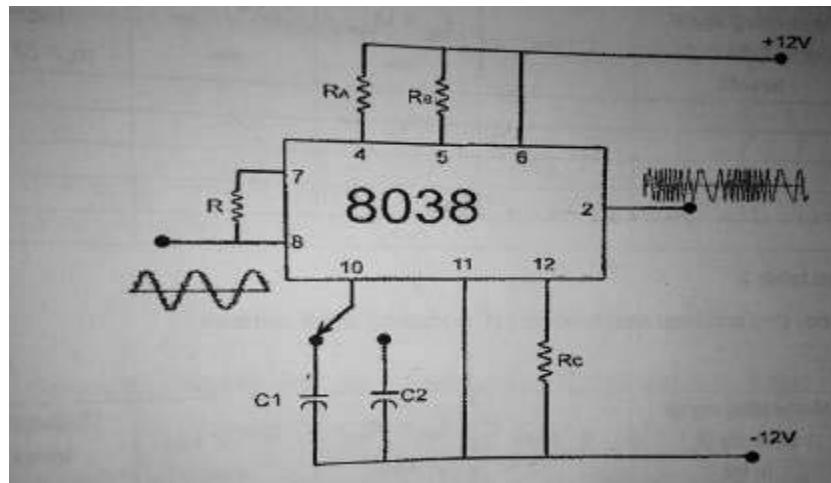
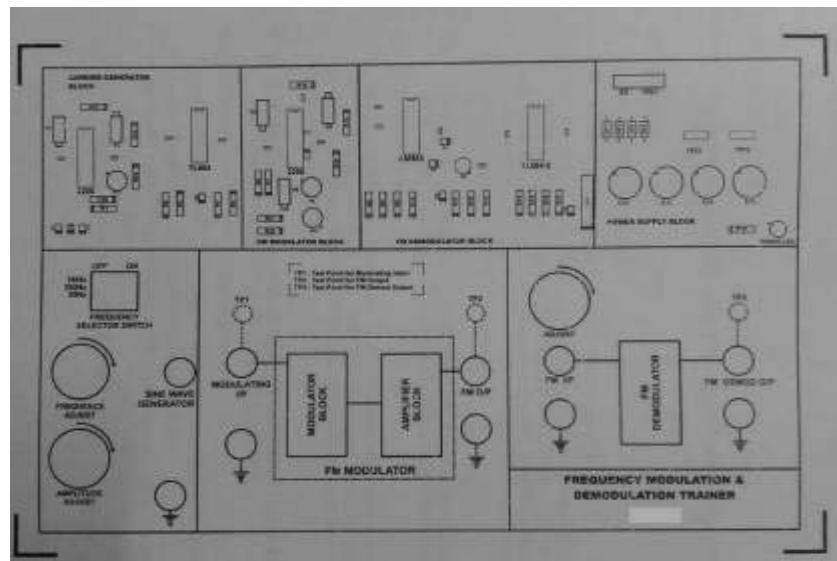
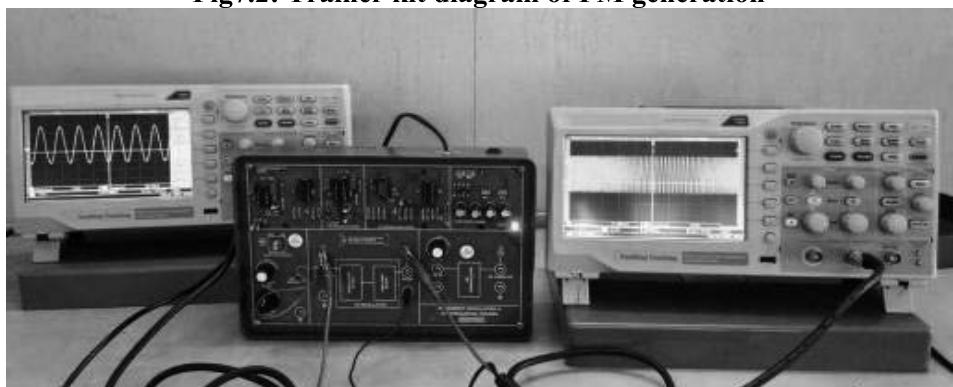
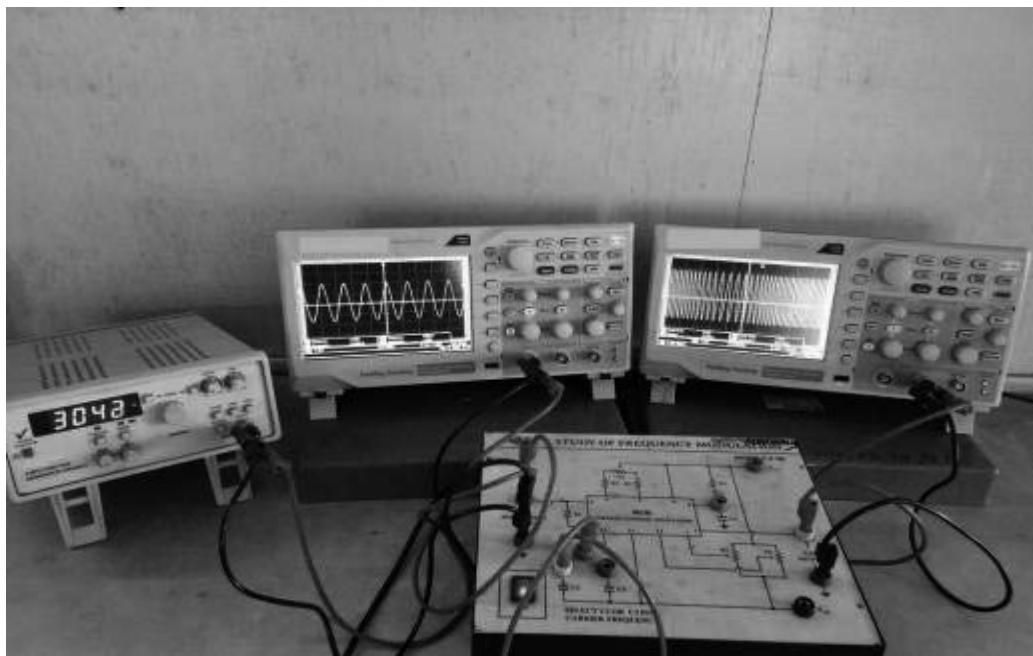

Fig 7.1: Circuit diagram of FM generation
Fig7.2: Trainer kit diagram of FM generation
Fig7.3: Experimental set up of FM generation using trainer kit
Fig7.4: Experimental set up of FM generation using IC 8038
FM -Modulator circuit using IC 8038 is shown in Fig 7.1 Same IC is used in trainer kit BCT- 02 as shown in Fig 7.2.
- a) Sample: Any relevant circuit (Fig 7.1)/Experimental trainer kit diagram (Fig 7.2)/Experimental set up (Fig 7.3, Fig 7.4)
1. Make connections as per the given practical set-up as shown in Fig7.3/Fig 7.4.